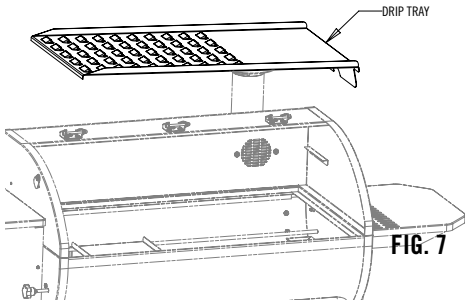
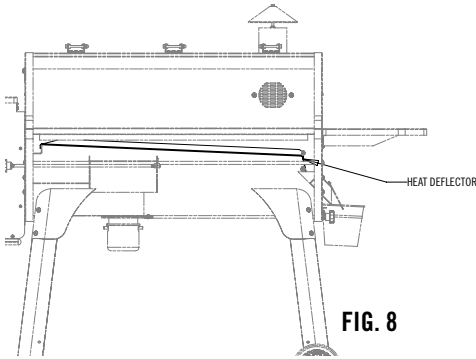

FIG. 7
FIG. 8
1. Install the Drip Tray as shown in Fig 7 and Fig 8.